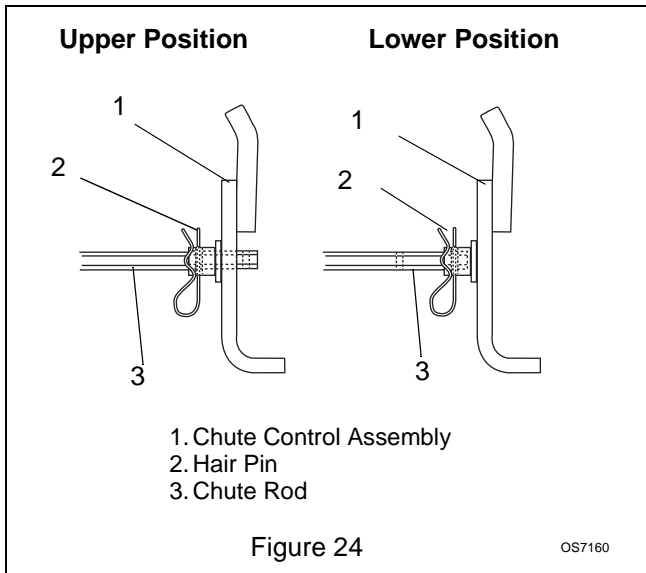

Figure 24
- Align correct chute rod holes in chute control assembly as shown in Figure 24, and then secure chute rod in position with hair pin remove in step 1.